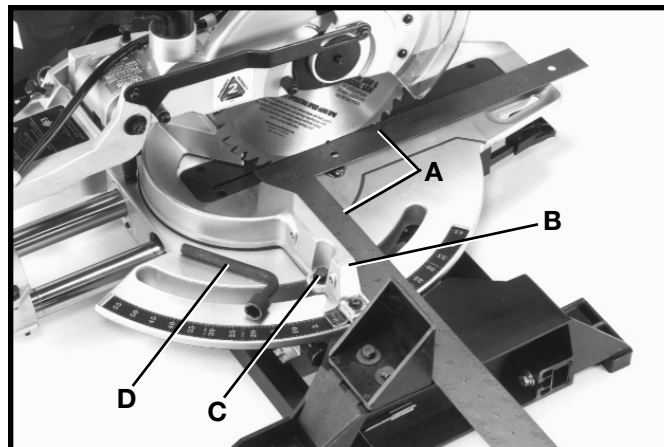

Fig. 35
3. Using a square (A) Fig. 35, place one end of the square against the fence (B) and the other end against the blade as shown. Check to see if the fence is 90 degrees to the blade.
4. If an adjustment is necessary, the fence (B) can be adjusted by loosening the two screws, one of which is shown at (C) Fig. 35, that attach the fence to the base, using wrench (D) supplied. Adjust the fence (B) as required and tighten two screws (C).